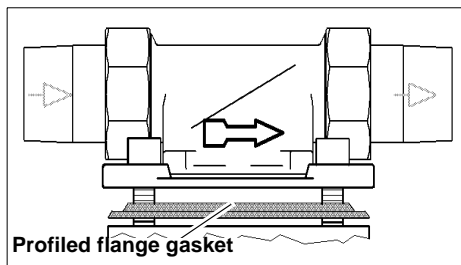

Fig. 5: Built-in rotary flange
The section of the profiled flange gasket must point towards the built-in rotary flange. Failure to observe this can lead to leaks and water escaping. This can in turn cause water damage to the house and its installations (see fig. 5).
During the backwashing the heating water flows from the top downwards (reversed flow) through the round filter brush (2), this flushes the dirt particles downwards through the open ball valve. After approx. 2 to 3 liters of backwashing water have been flushed through the ball valve must be closed again tightly. Turn the handwheel (5) back to the right up to the limit stop. The filter is now in the operating position. The ball valve handle (6) is now back behind the filter (see Fig. 5).